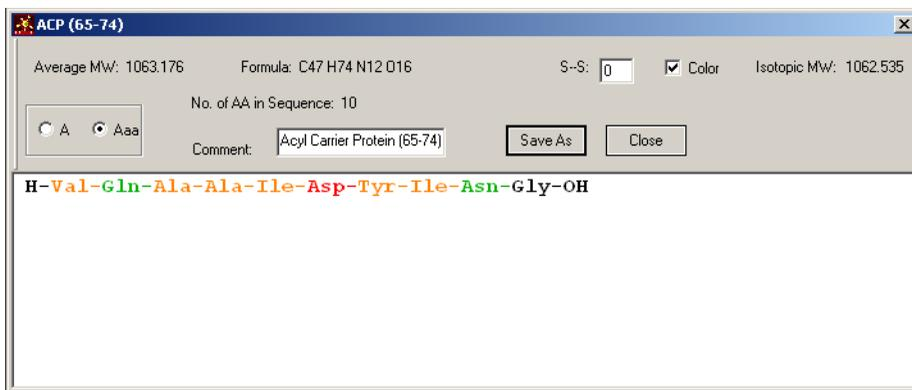

Figure 5-4 Three-Letter Sequence Format
- Select **Aaa** to display the sequence using the three-letter format (Figure 5-4).